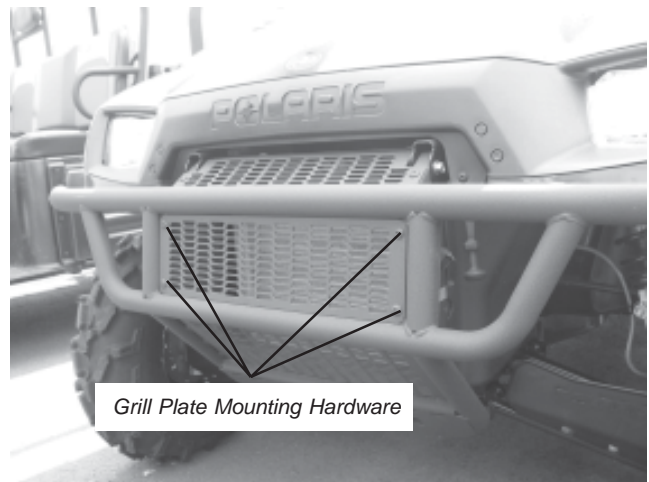
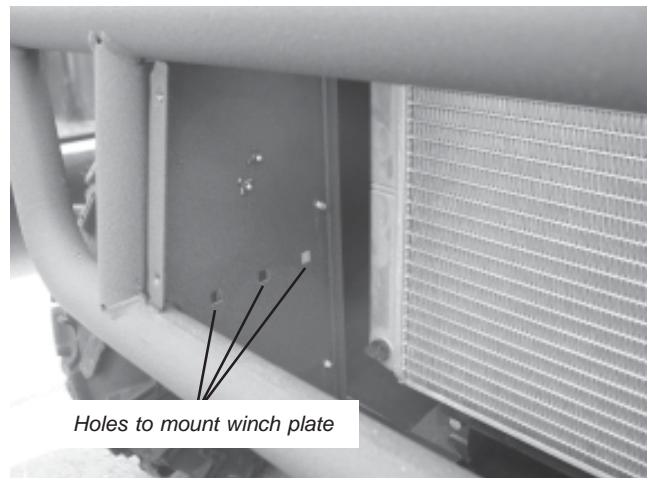

Figure 1
Figure 2
1. Remove front grill plate from vehicle, as shown in Figures 1 and 2. A #27 Torx screwdriver can be used to loosen hardware. Figure 2 shows grill plate removed and holes that will be used later to mount the winch plate.